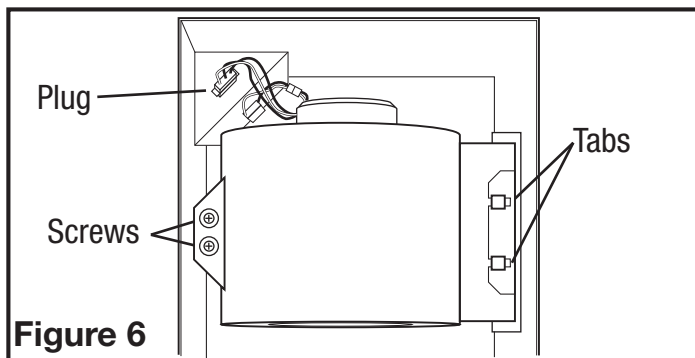
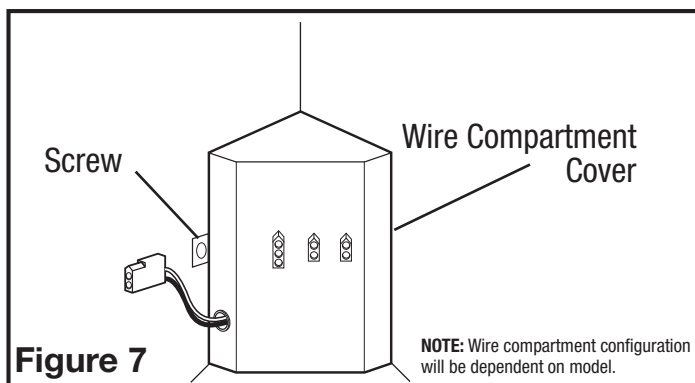

Figure 6
Figure 7
- 1b. **Internal Wire Compartment:** If the motor is already installed in the housing, remove the two screws holding the blower assembly in place. Lift up on the assembly and slide it out of the tabs on the housing (**Figure 6**). Remove the wire compartment cover screw and place the cover in a secure place (**Figure 7**).